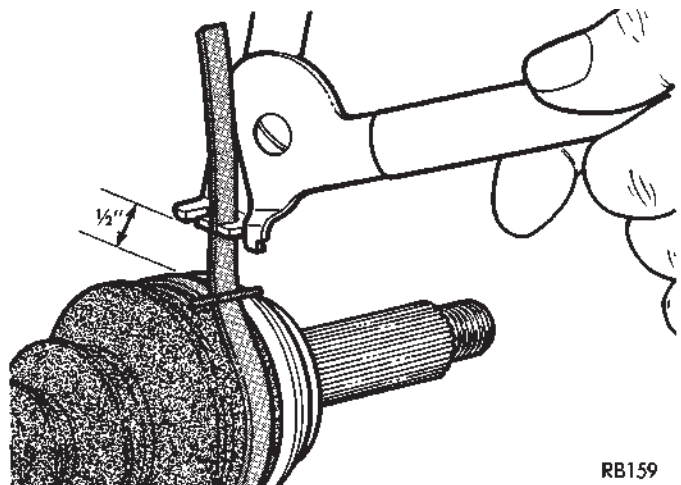

Fig. 6 Open Tool, Position Strap in Narrow Slot 1/2 Inch from Buckle
- (8) Open the tool all the way and place strip in narrow slot approximately 13 mm (1/2 inch) from buckle (Fig. 6).